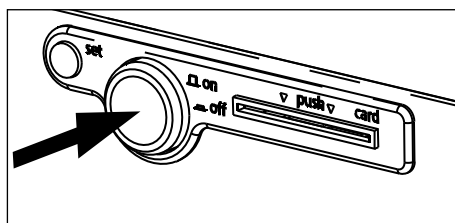

Fig. 21 Switch off cooled incubator
1. Switch off appliance. To do this, press the main switch on the operating panel so that it clicks into the appliance (Fig. 21).